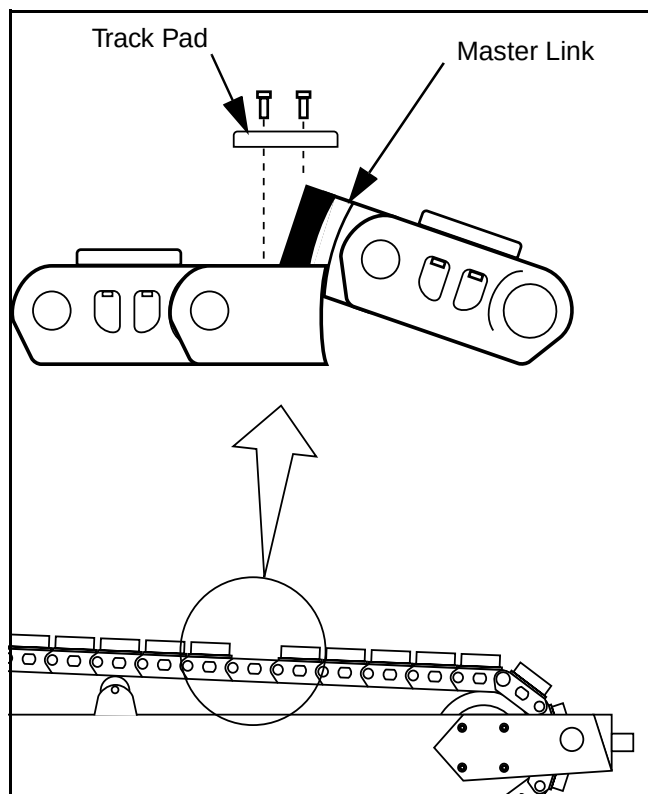

Figure 6 - 65 Connecting Master Link
- 10) Once the master link is connected, apply Loctite to bolts and install track pads. (Figure 6 - 66)